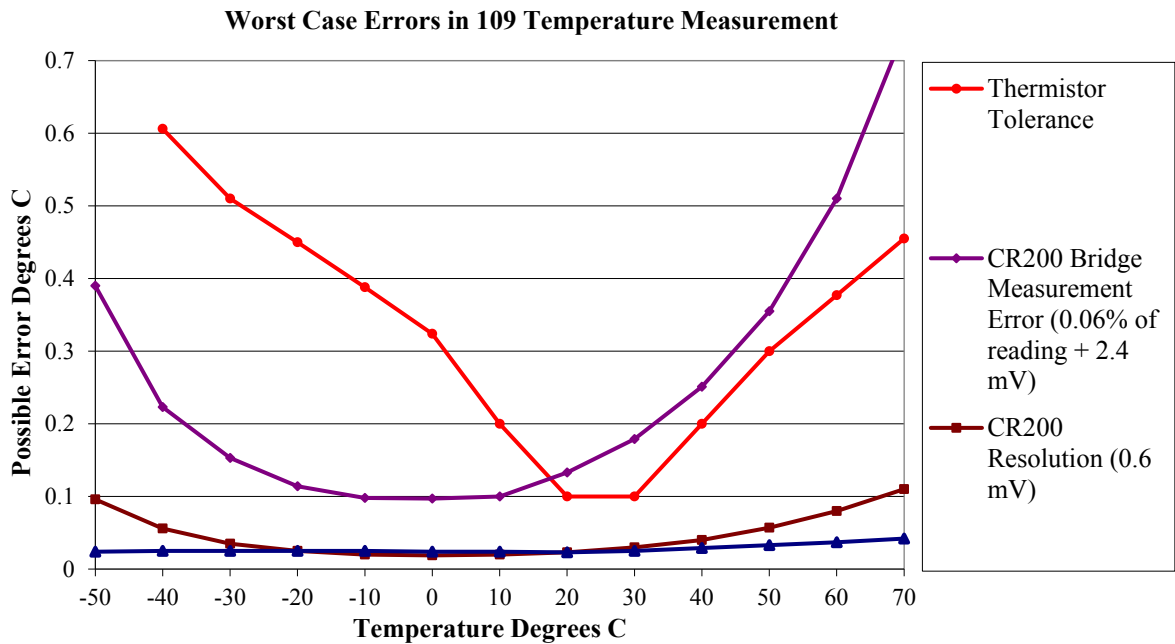

FIGURE 6-1. Worst-case probe and measurement errors
¹See FIGURE 6-1, *Worst-case probe and measurement errors*, and FIGURE 6-2 *Steinhart-Hart linearization error*. Overall probe accuracy is a combination of thermistor interchangeability, bridge-resistor accuracy, and error of the Steinhart-Hart equation. Interchangeability is the principle component error and is predominantly offset. Offset can be determined with a single-point calibration. Offset can be entered in the **Therm109()** instruction **Offset** parameter. The bridge resistor has a 0.1% tolerance with a 10 ppm temperature coefficient. At temperature extremes, the possible error in the CR200(X) series datalogger measurement may be greater than the error that exists in the probe.